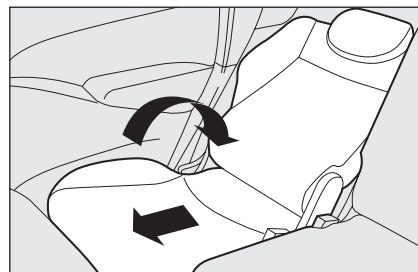

fig. 50
- ☐ tilt the passenger seat to “table” position **fig. 50** (see “Setting the passenger’s seat to table configuration” in this section);
- ☐ move the rear seat back rest to the required position **fig. 50**.